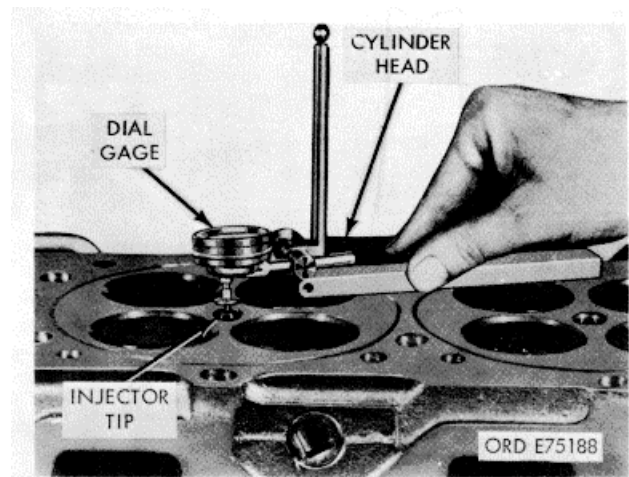

Figure 3-31. Injector tip protrusion measurement.
(2) Inspect injector sleeves for scratches on cup seat area and for continuous contact by using Prussian Blue. Mark sleeve that is scratched on does not show continuous seat contact, of at least 0.060 inch wide, for replacement.
(3) Check injector tip protrusion by installing injector assembly and torquing to 30/35 footpounds. If injector protrusion exceeds 0.125 inch mark sleeve for replacement (fig. 3-31).